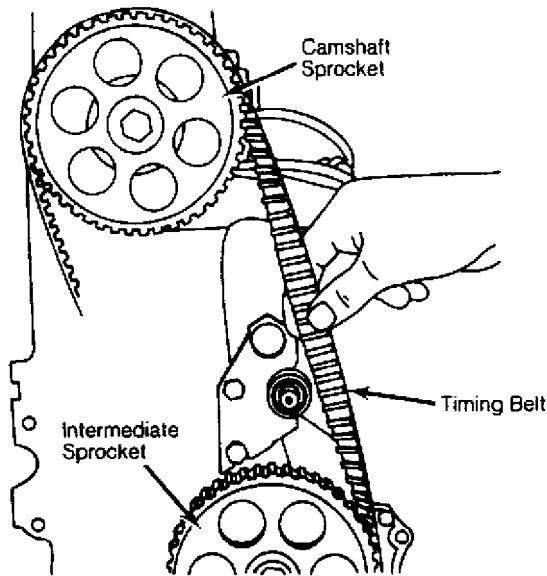

Fig. 9: Proper Timing Belt Tension
3) Rotate tensioner clockwise to tighten belt and install lock nut. Proper tension is achieved when belt can be twisted 90 degrees. See Fig. 9. Rotate crankshaft 2 revolutions and check timing mark alignment. To complete installation, reverse removal procedure.